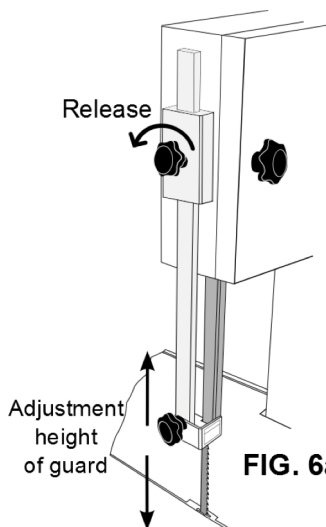

FIG. 6a BAND SAW GUARD
For adjusting the band saw guard, turn counterclockwise the superior handle (24) (Fig 6a) for releasing and adjusting the height enough to cut meat. Turn clockwise the superior handle to fix against the band guard saw.